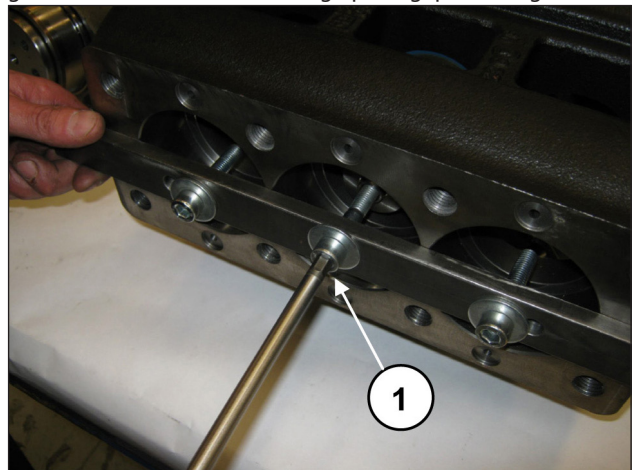
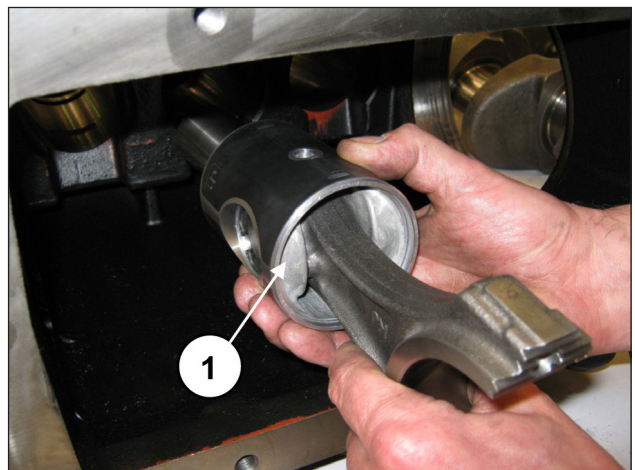
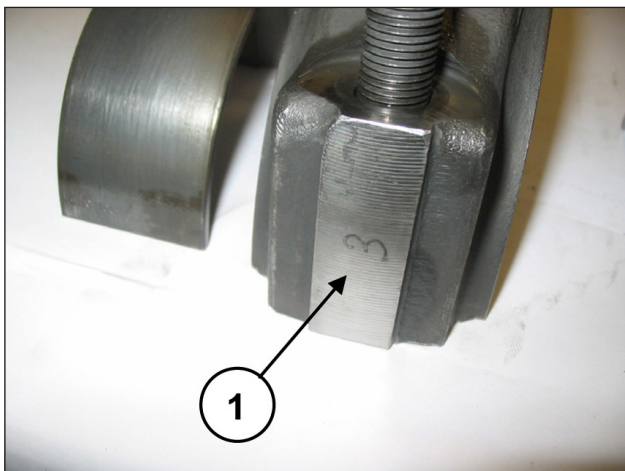

Fig. 32
Fig. 33
Fig. 40
In the event that it is necessary to replace one or more con-rods or piston guides, operate as follows: Unscrew the screws with tool code 27566200 to unlock the con-rods (pos. ①, Fig. 32) and then extract the con-rod-piston guide units from the back casing opening (pos. ①, Fig. 33).
Couple the half supports to the previously disassembled caps, referring to the numbering (pos. ①, Fig. 40).
Separate the caps from the half supports. Proper coupling can be verified by the numbering on the side (pos. ①, Fig. 40). After having checked casing cleaning, proceed with assembly of half support-piston guide unit inside casing rods (pos. ①, Fig. 33).
Block the three units with the use of special tool code 27566200 (pos. ①, Fig. 32).
Remove the tool for blocking the con-rods code 27566200 (pos. ①, Fig. 32).